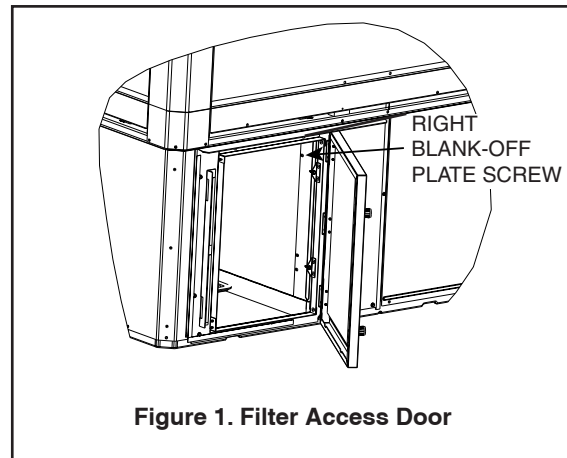

Figure 1. Filter Access Door
- Open or remove the Filter Access Door. See Figure 1.
- Remove the screw from the top of the right coil blank-off plate just inside the Coil Access opening, see Figure 1.